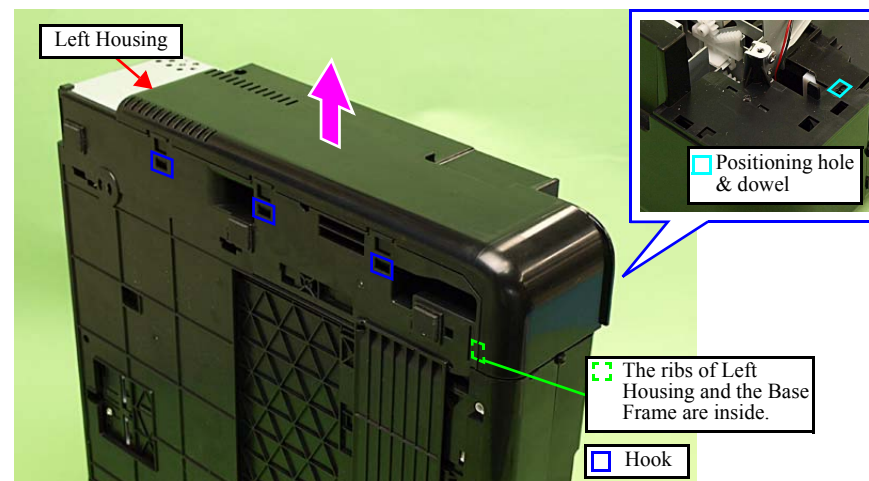

Figure 4-218. Removing the Left Housing/Decoration Belt L (2)
- Align the positioning hole of the Left Housing with the dowel of the Base Frame. (See Fig. 4-218.)